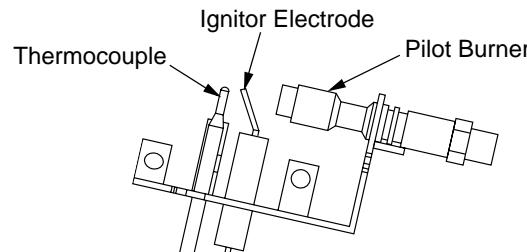

Figure 39 - Pilot
4. Wait five (5) minutes to clear out any gas. Then smell for gas, including near the floor. If you smell gas, STOP! Follow "B" in the safety information, column 1. If you don't smell gas, go to the next step.
5. Slightly depress and turn control knob counterclockwise ↗ to the PILOT position. Press in control knob for five (5) seconds (see Figure 39).